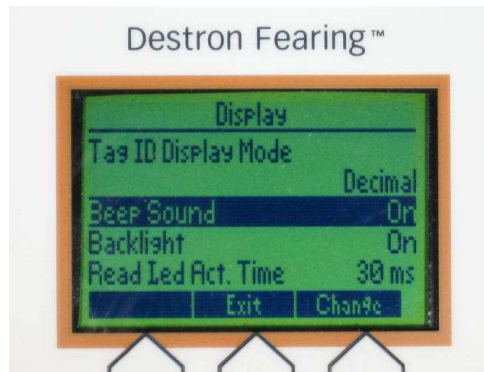

FIG. 99: Display Screen
1. Press the UP/DOWN Arrow Keys to highlight the "Beep Sound" line on the Display Screen. See Fig. 99.
2. Press the CHANGE Key to select the OFF or ON. See Fig. 99.